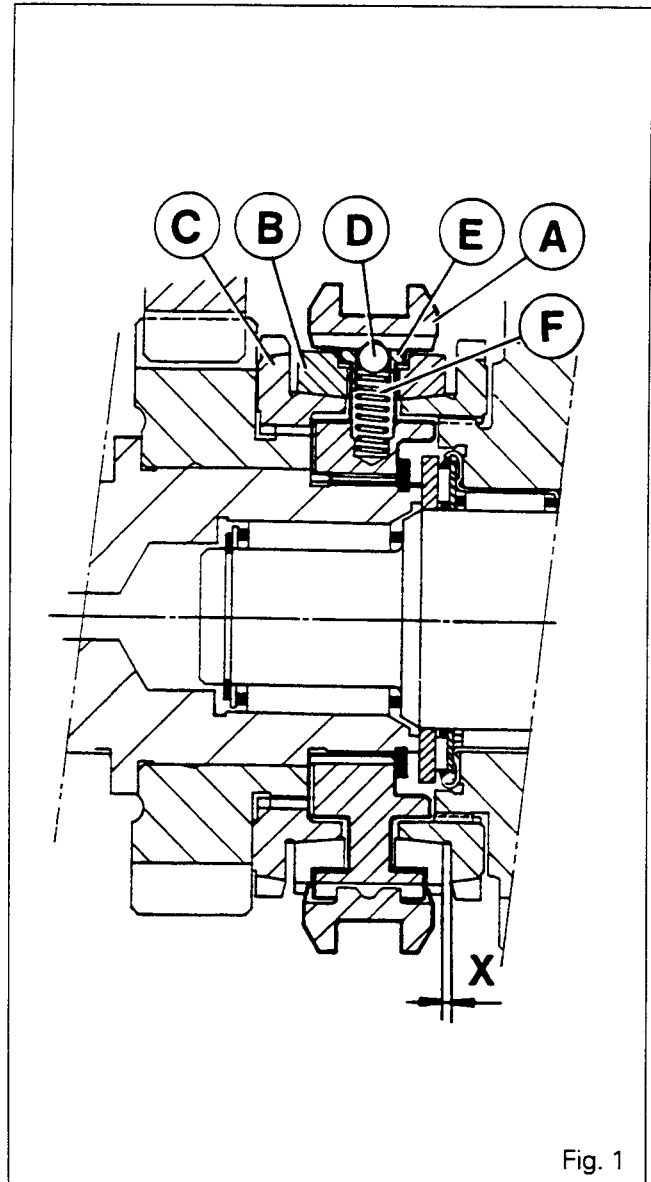

Fig. 1
**Gearbox - Transmission assembly****Synchromesh units (Fig. 1)****Locking position**